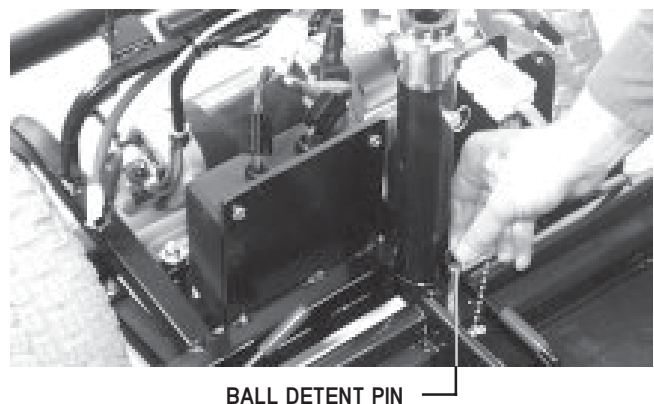

Figure 14. Ball Detent Pin
9. Remove the ball detent pin from the frame. See figure 14.